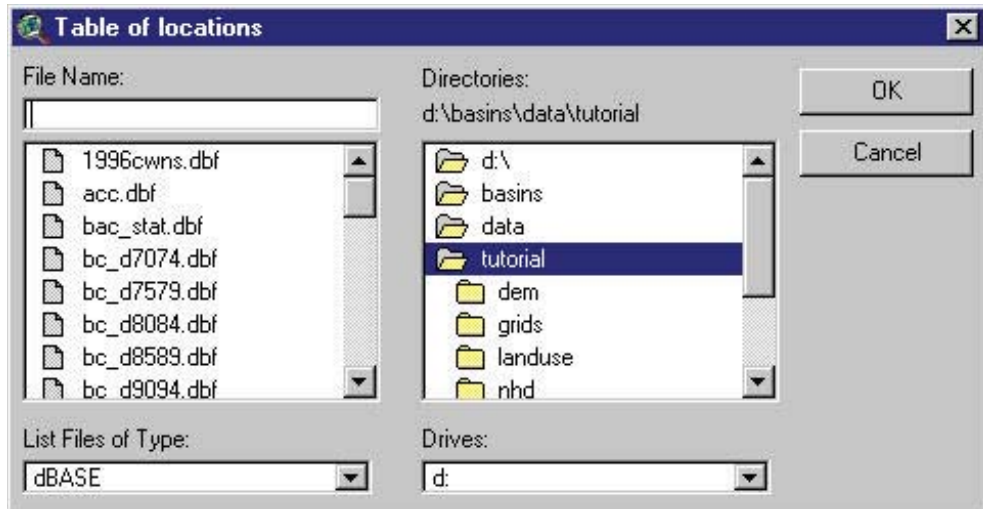

Figure 5.34
2. Click on the  button next to the "Table" text box. A file browser will appear (Figure 5.34) allowing you to select a dBASE table. Select the file name and click **OK** (or double click the selection).